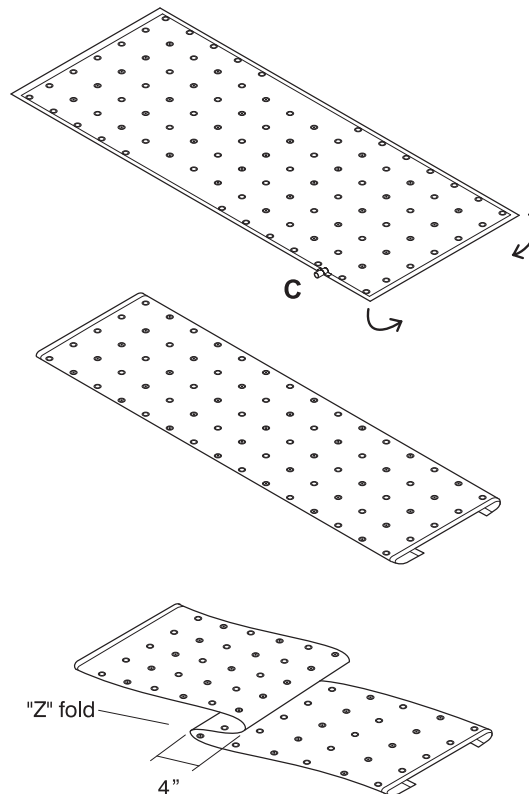

Figure 15—Fold lower cell before inserting
- Unroll the replacement lower cell and fold it as shown (fig. 15).